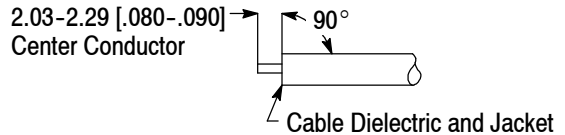

Figure 2
1. Insert the squared cable end into Hole Pattern 2 of the cable fixture subassembly. Refer to Figure 2, Detail A.
3. Pry the jacket and dielectric from the cable to expose the center conductor. Make sure that the center conductor is within the dimension shown in Figure 2, Detail B.